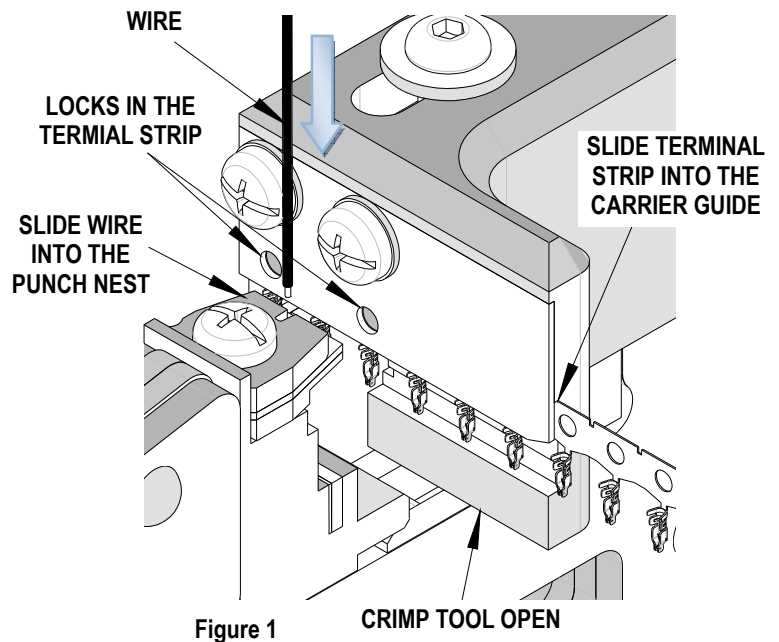

Figure 1
3. Push the strip in until it locks into the (2) detent in the carrier guide and a terminal is centered with the punch nest. See Figure 1.
9. If crimping more wires, advance the terminal strip by (1) detent until the terminal is centered with the punch nest.